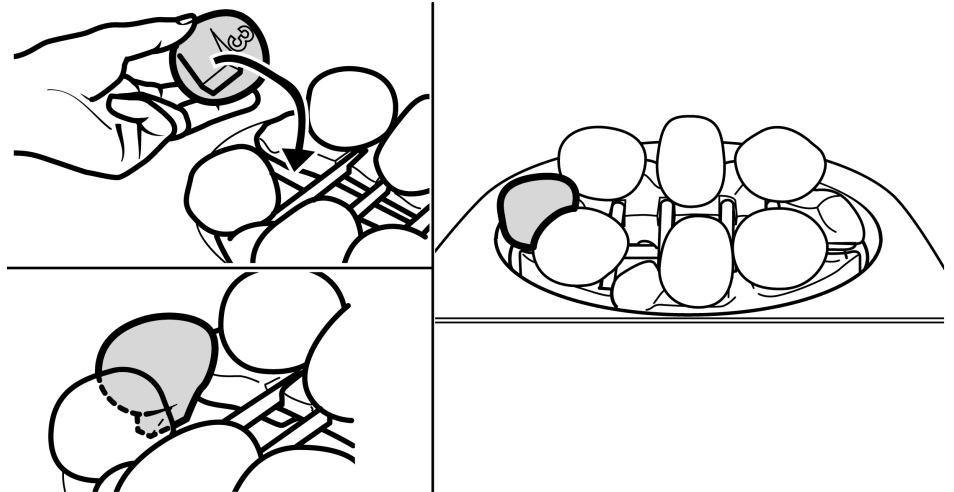

Figure 10 Pebble number '3' Location
7. Pebble '3' has a location peg on the underside. The peg has a chamfer on one side. The chamfer must face the burner. Locate pebble '3' onto the left hand side of the pebble base. It should bridge the gap between the front and rear halves of the pebble base. Pebble '3' should not touch the burner cover (Figure 10).